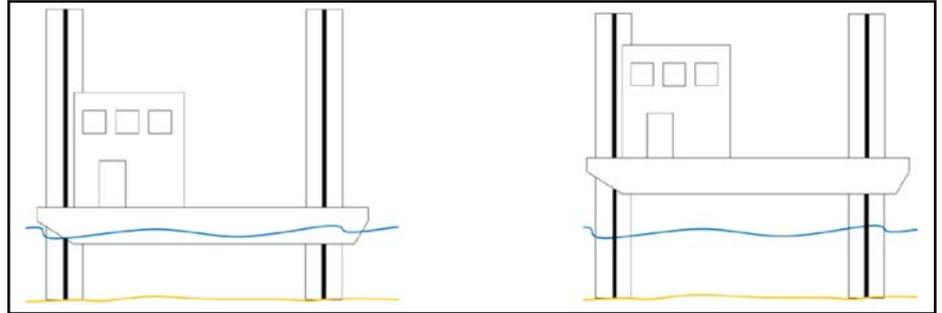

Figure 1 Liftboat illustration.
**Operation of a lift boat.** As stated, the typical duty for a lift boat is moving to the work area to elevate the hull for more stability (Fig. 1). In Figure 1 two images illustrate the lifting of the hull